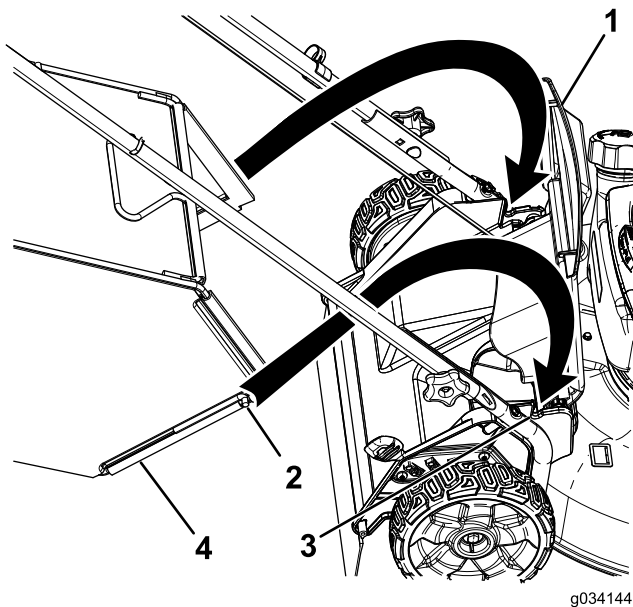

Figure 16
1. Lift up the rear deflector (Figure 16).
2. Insert the rod ends of the grass bag into the notches in the handle brackets (Figure 16).